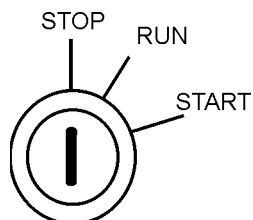

Figure 56. Ignition Switch (Off Position)
4. Place the ignition switch (Figure 56) in the "**STOP**" position, remove the key and store in a safe place.
2. Turn the ignition switch key to the **STOP** position (Figure 56).